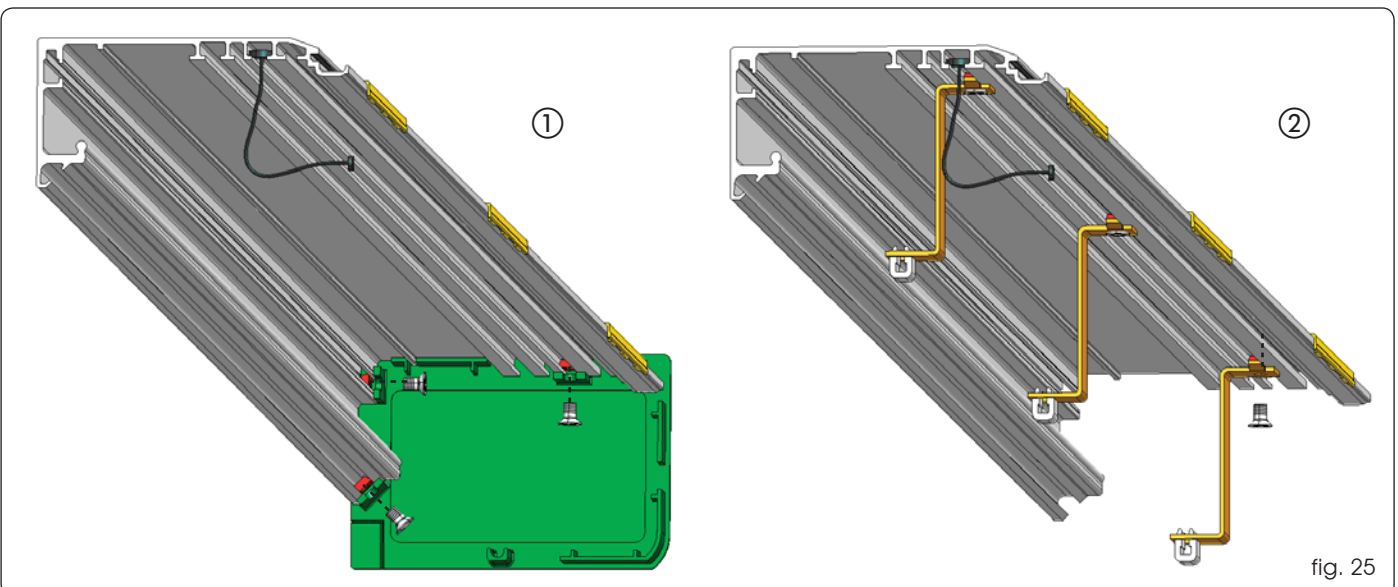

fig. 25
Fit the side panels as shown in Fig. 25. ref.①. The figure shows the installation of the right hand side panel - proceed in the same way for the left panel.
If you do not wish to install the side panels, install 3 brackets to secure the housings - two at the sides and one in the centre (for profiles of over 3 meters) as shown in Fig. 25 ref. ②.